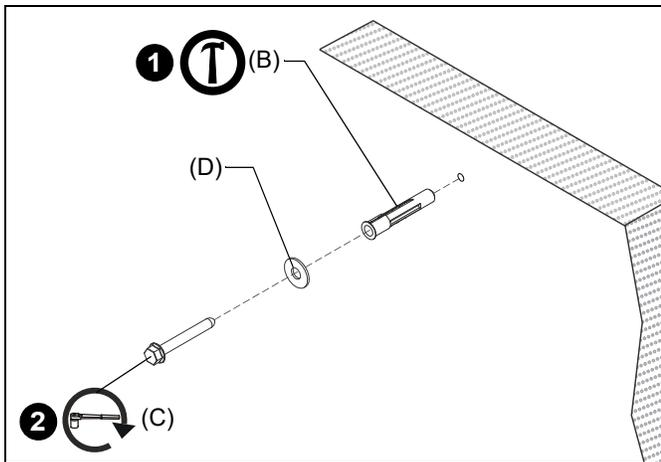

Figure 19
1. Install one UX10X60R anchor (B) into each pilot hole using a hammer, making sure that the anchor is flush with the wall. (See Figure 19)
2. Use one 5/16" x 2-1/2" hex flange head lag bolt (C) and one 5/16" washer (D) through product into each anchor in wall. (See Figure 19)